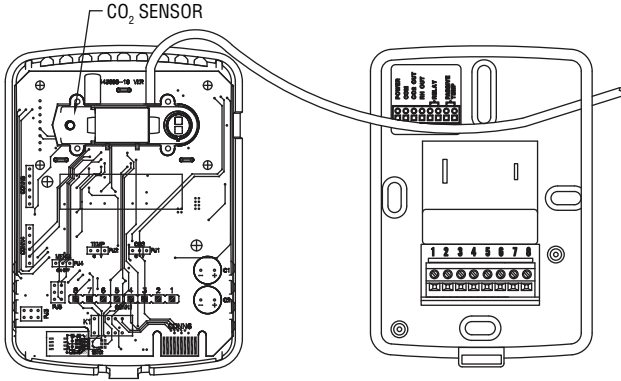

Figure 7: Calibration
- Step 2: Slide the calibration tubing through the slots on the back plate and attach to one of the nipples on the CO₂ sensor (See Figure 7).